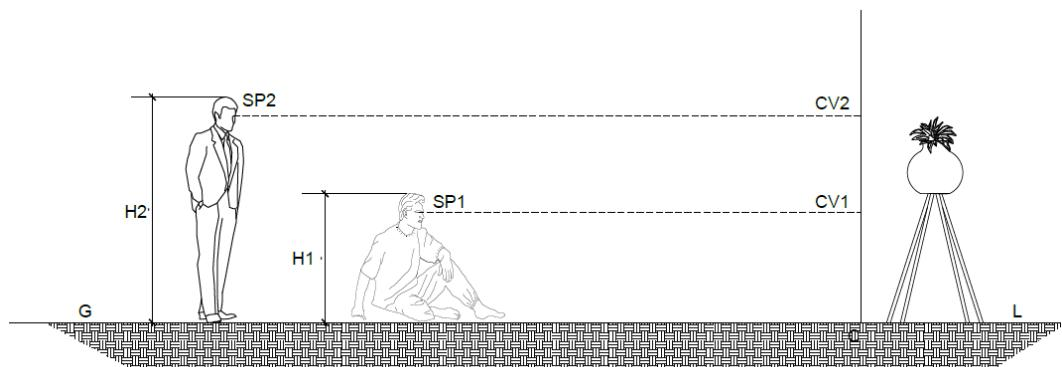

Fig 5.5 Point of Sight
Vertical sight lines and horizontal sight lines are always at right angles to each other and the point where they cross is the centre of vision (CV), the point towards infinity which is dead in line with the observer's eye as shown **Fig 5.5**. It is also called point of sight or principal vanishing point.